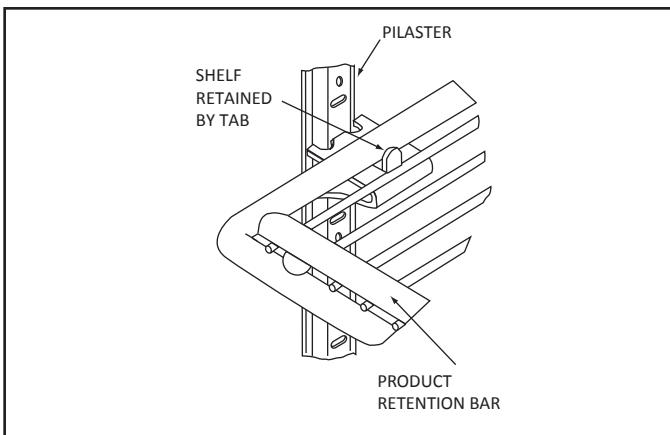

Figure 2. Proper installation of the shelf on the clip.
6. Shelves must be placed so that the retaining tab on the shelf clip captures the shelf, as shown in Figure 2.